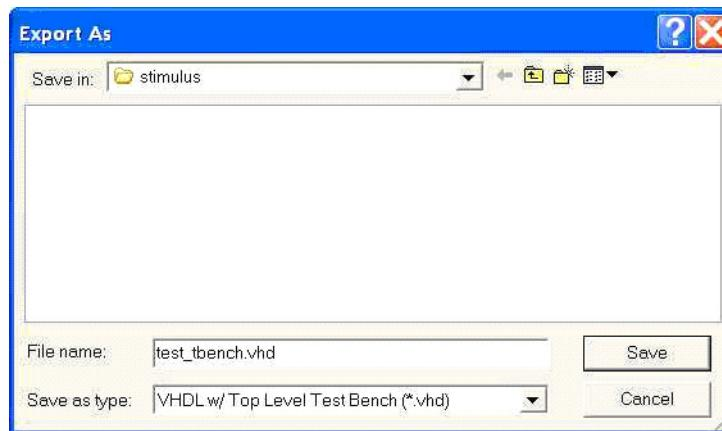

Figure 7-19 • Export VHDL Testbench Save As Dialog Box
9. Select **VHDL w/ Top Level Testbench** in **Files of Type** and enter **test_tbch.vhd** for the file name, as shown in Figure 7-19.